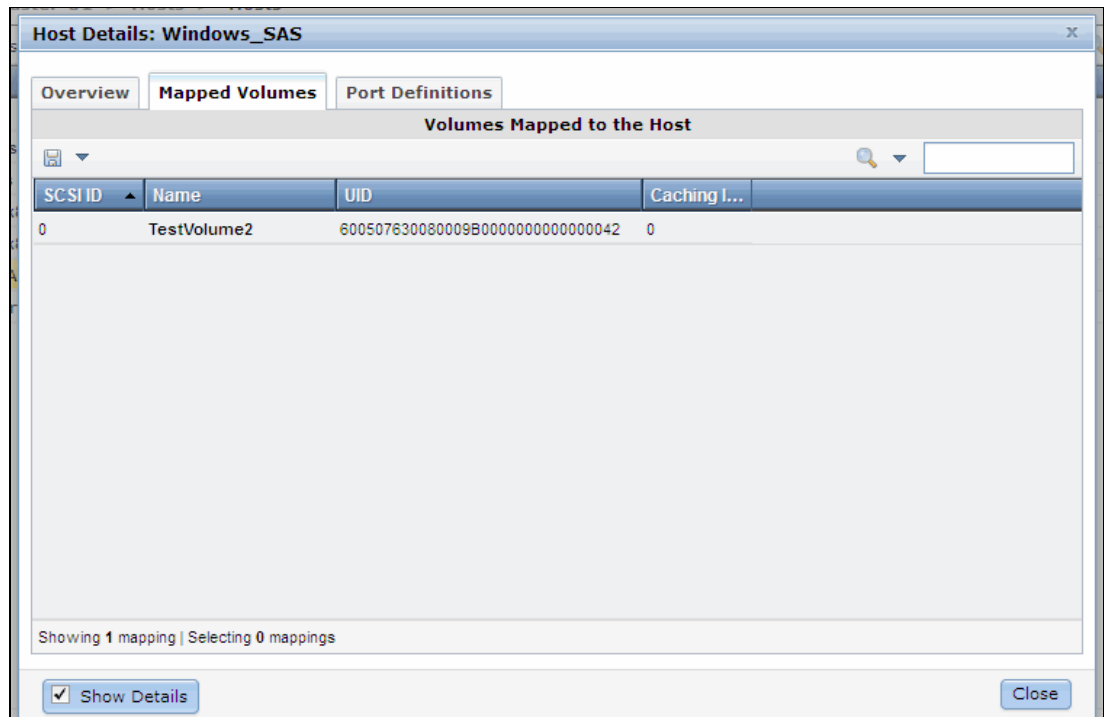

Figure 5-59 SAS host mapped volumes
2. Browse to the **Mapped Volumes** tab, as shown in Figure 5-59.